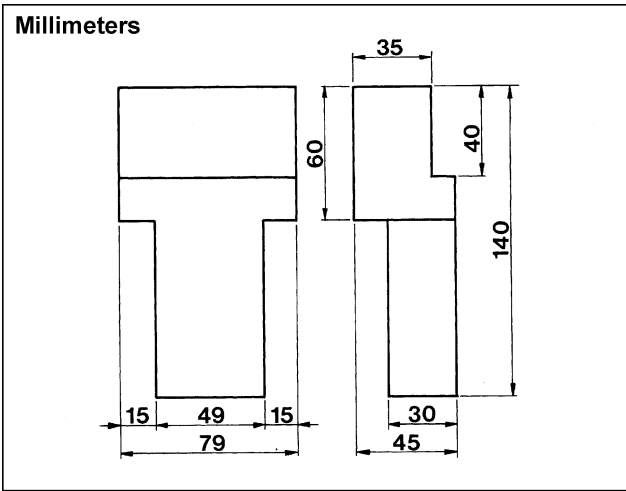

FIGURE 28
5. After a period of use, if the wood protection cap at the end of the crosscut fence is cut away, a new one must be made. See the diagram in Figure 28 (dimensions are millimeters).